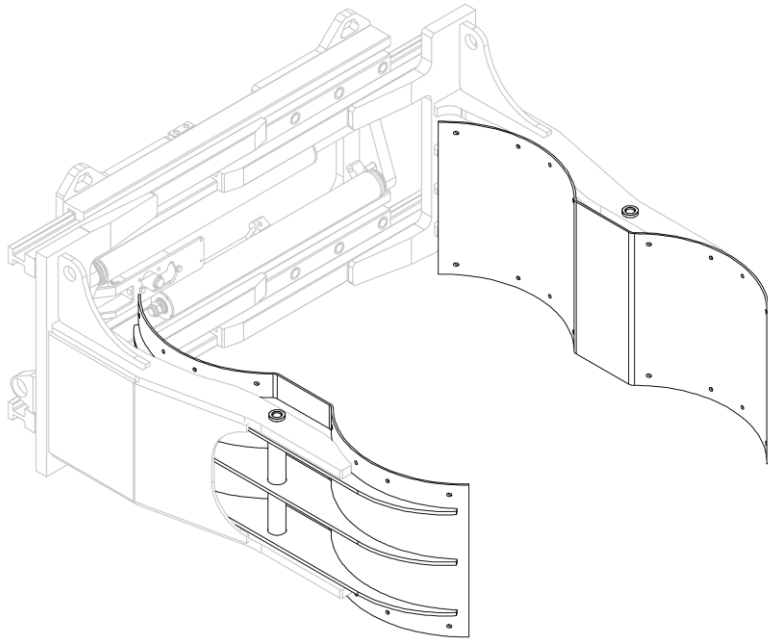
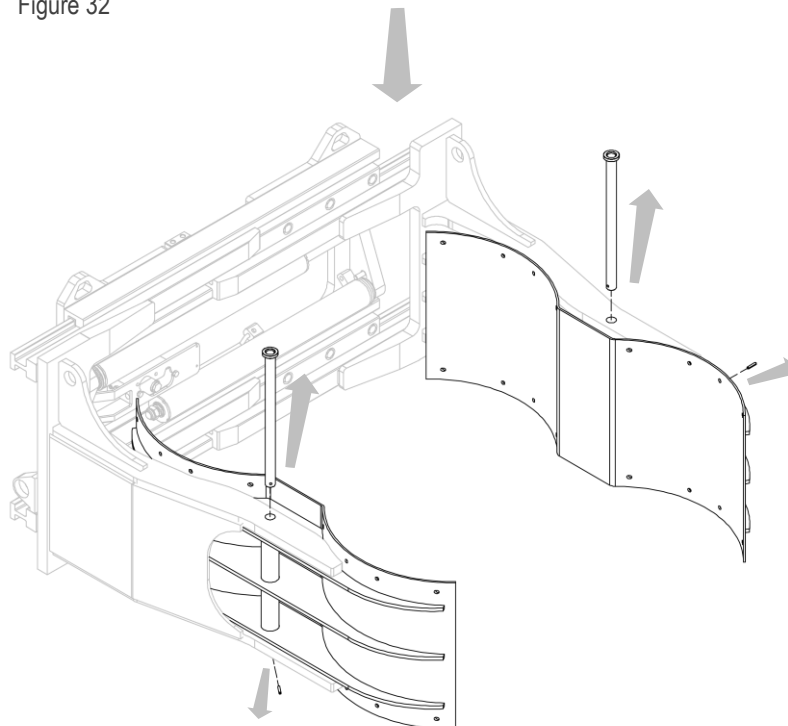

Figure 32
Figure 33
3. Remove the jaws from the forks (see *Figure 32* and *Figure 33*).